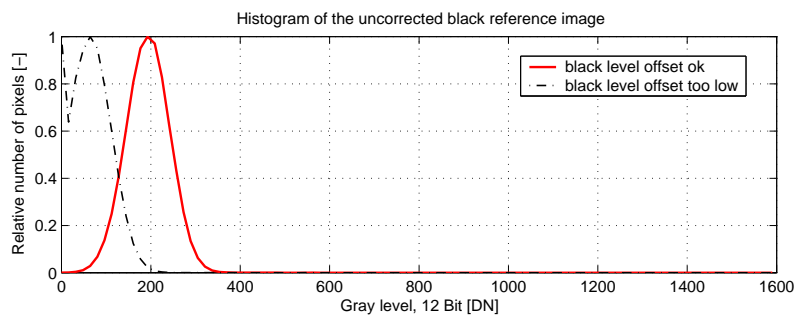

Figure 4.20: Histogram of a proper black reference image for offset correction
- It may be necessary to adjust the black level offset of the camera. In histogram of the black reference image, ideally there are no gray levels at value 0 DN after adjustment of the black level offset. All pixels that are saturated black (0 DN) will not be properly corrected (see Fig. 4.20). The peak in the histogram should be well below the hotpixel threshold of 1008 DN @ 12 bit.